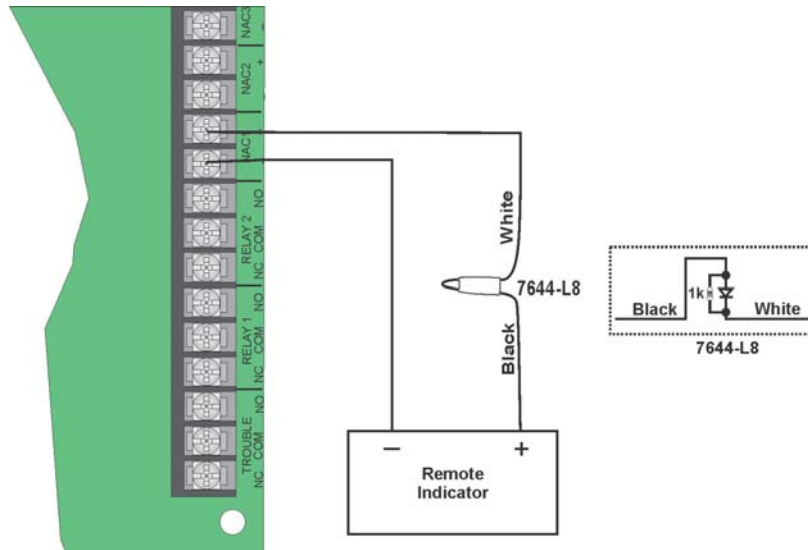

Figure 4-58 Polarity Reversal Connection Using the 7644-L8
- Wire the 7644-L8 to the control panel as shown in Figure 4-58. Do not install an EOL resistor on the terminals of the circuit used.